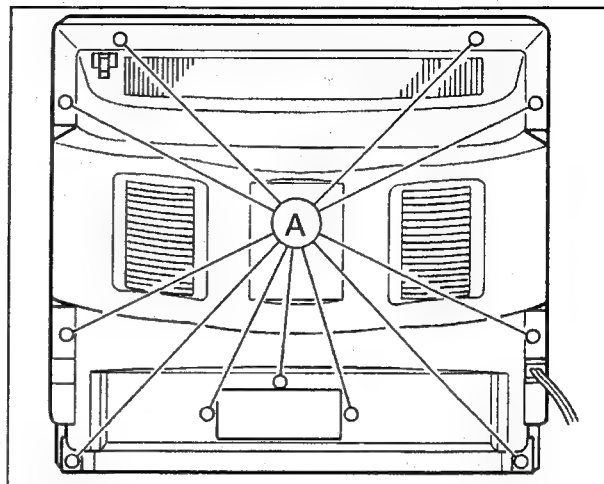

Fig. 1
- 1. Take out 11 screws (A) indicated in Fig. 1.